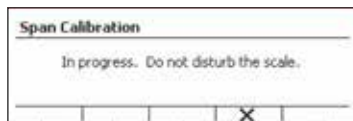

Figure 10
- Place a calibration mass of the specified weight on pan and press the softkey corresponding to the ✓ icon. To change to a different calibration point, input desired value and place the corresponding weight on pan for calibration. A suggestive message shows on the screen. (See Figure 10)